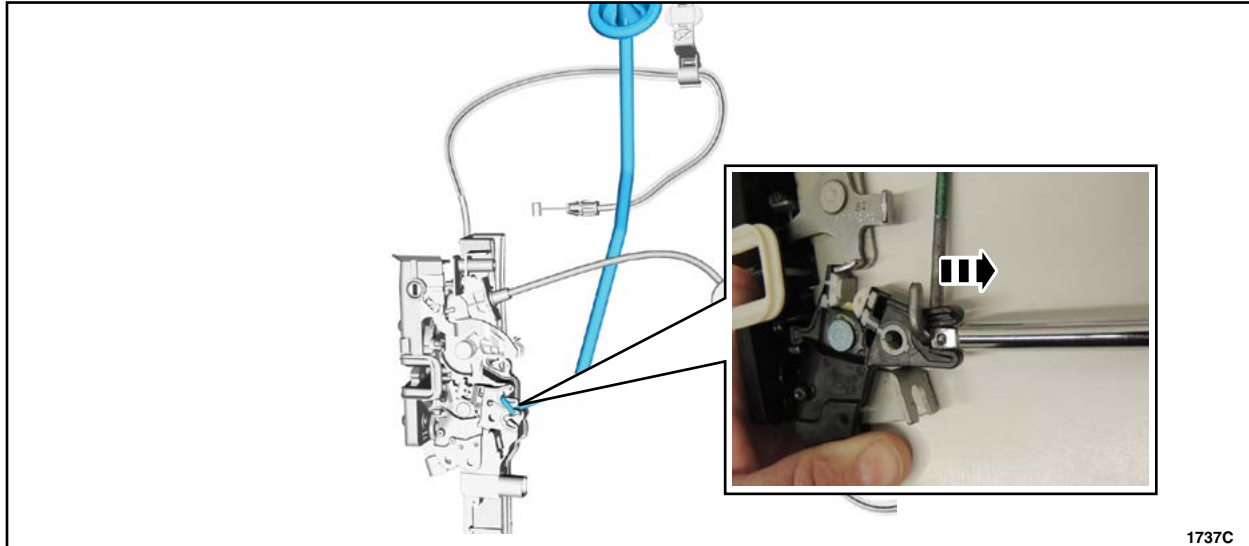

FIGURE 19
4. Remove the lock rod assemblies. See Figure 19.